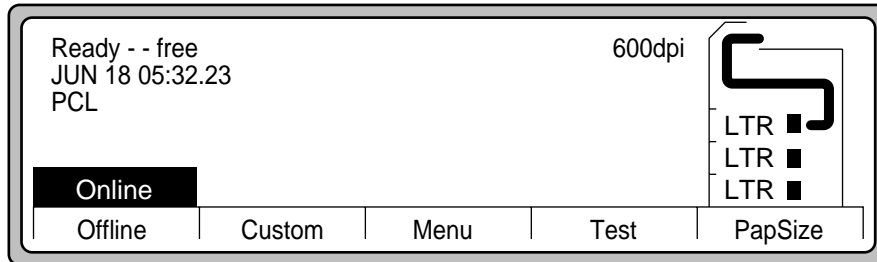

Figure 4-44 Main Screen
3. Press the **Test** button on the Main Screen shown in Figure 4-44.